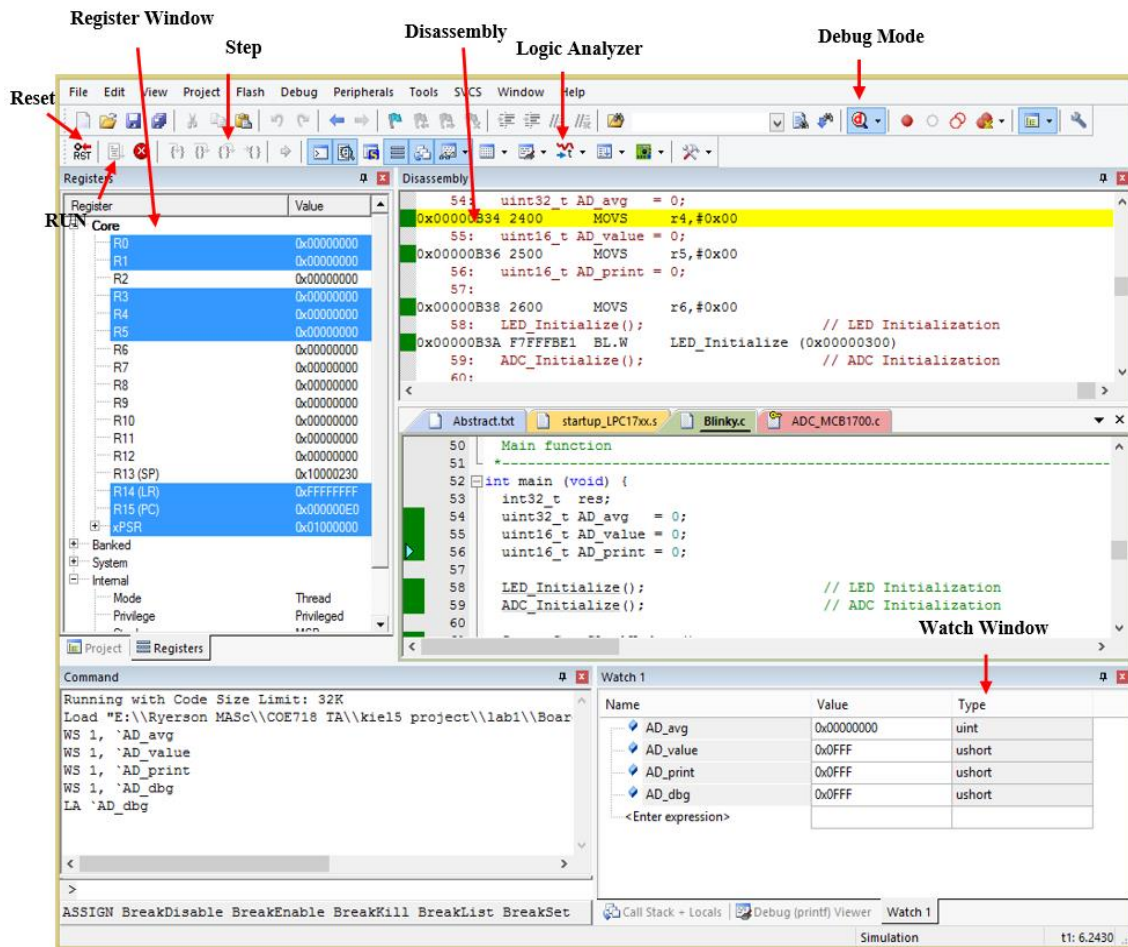

Fig. 13: uVision Debug Mode
If you have entered the Debug mode correctly, you will see several windows pop up which will allow you to examine and control the execution of your code. You should observe something like that of Figure 13. Close debug and reopen debug if any error showed in Command window. You might or might not see the variables shown in Command window from Figure 13. The Debug mode will connect uVision to a simulation model of your program, downloading the project's image into the microcontroller's simulated memory.
- **Steps:** (See Fig. 13) As opposed to running through the whole code, the step keys allow you to step through your code line by line, step through a function etc.
The register window (see Fig. 13) displays the contents of the CPU's register file (R0 - R15), the program status register (xPSR), the main stack pointer (MSP) and the process stack pointer (PSP). This window will automatically open when transitioning to Debug mode. These registers may be used for debugging purposes, in conjunction with the watch window, steps, and breakpoints.